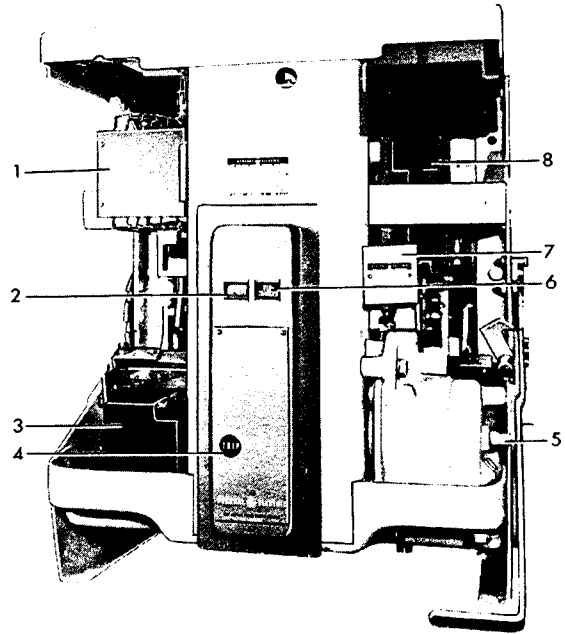

Fig. 2 (8039671) Front view of AK-2-50 breaker
3. Open the breaker by pushing the trip button (4, Fig. 2).